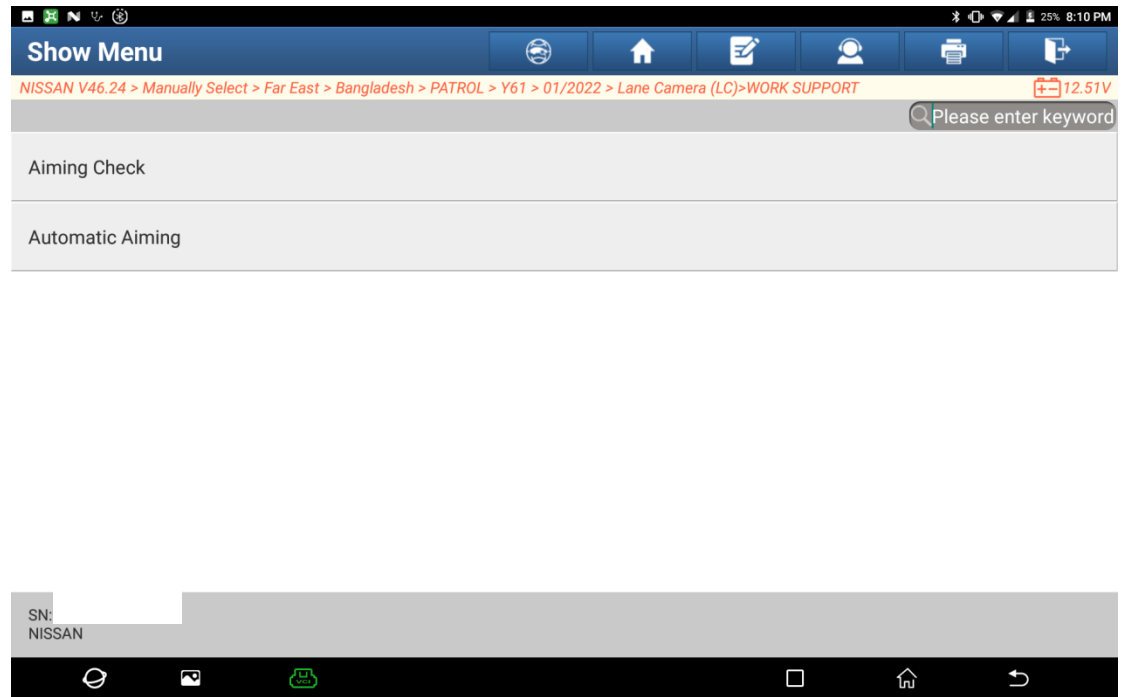

Figure 5
5. Click [WORK SUPPORT] to enter the interface. See Figure 5.